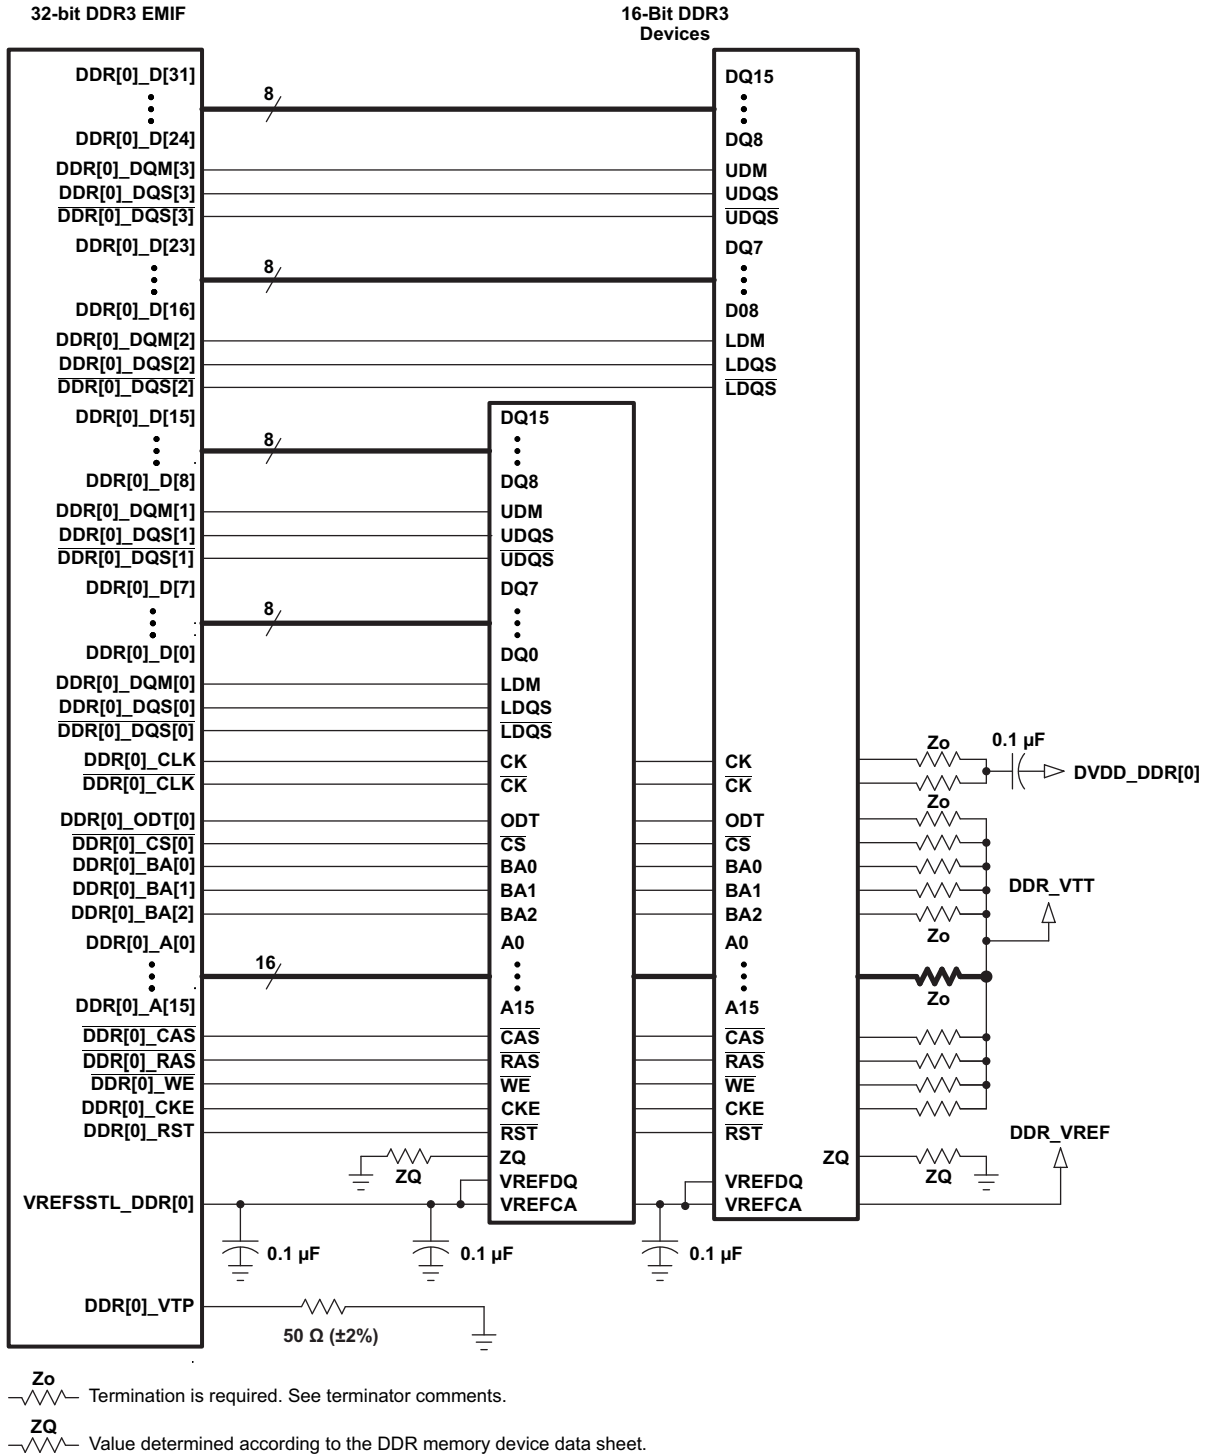
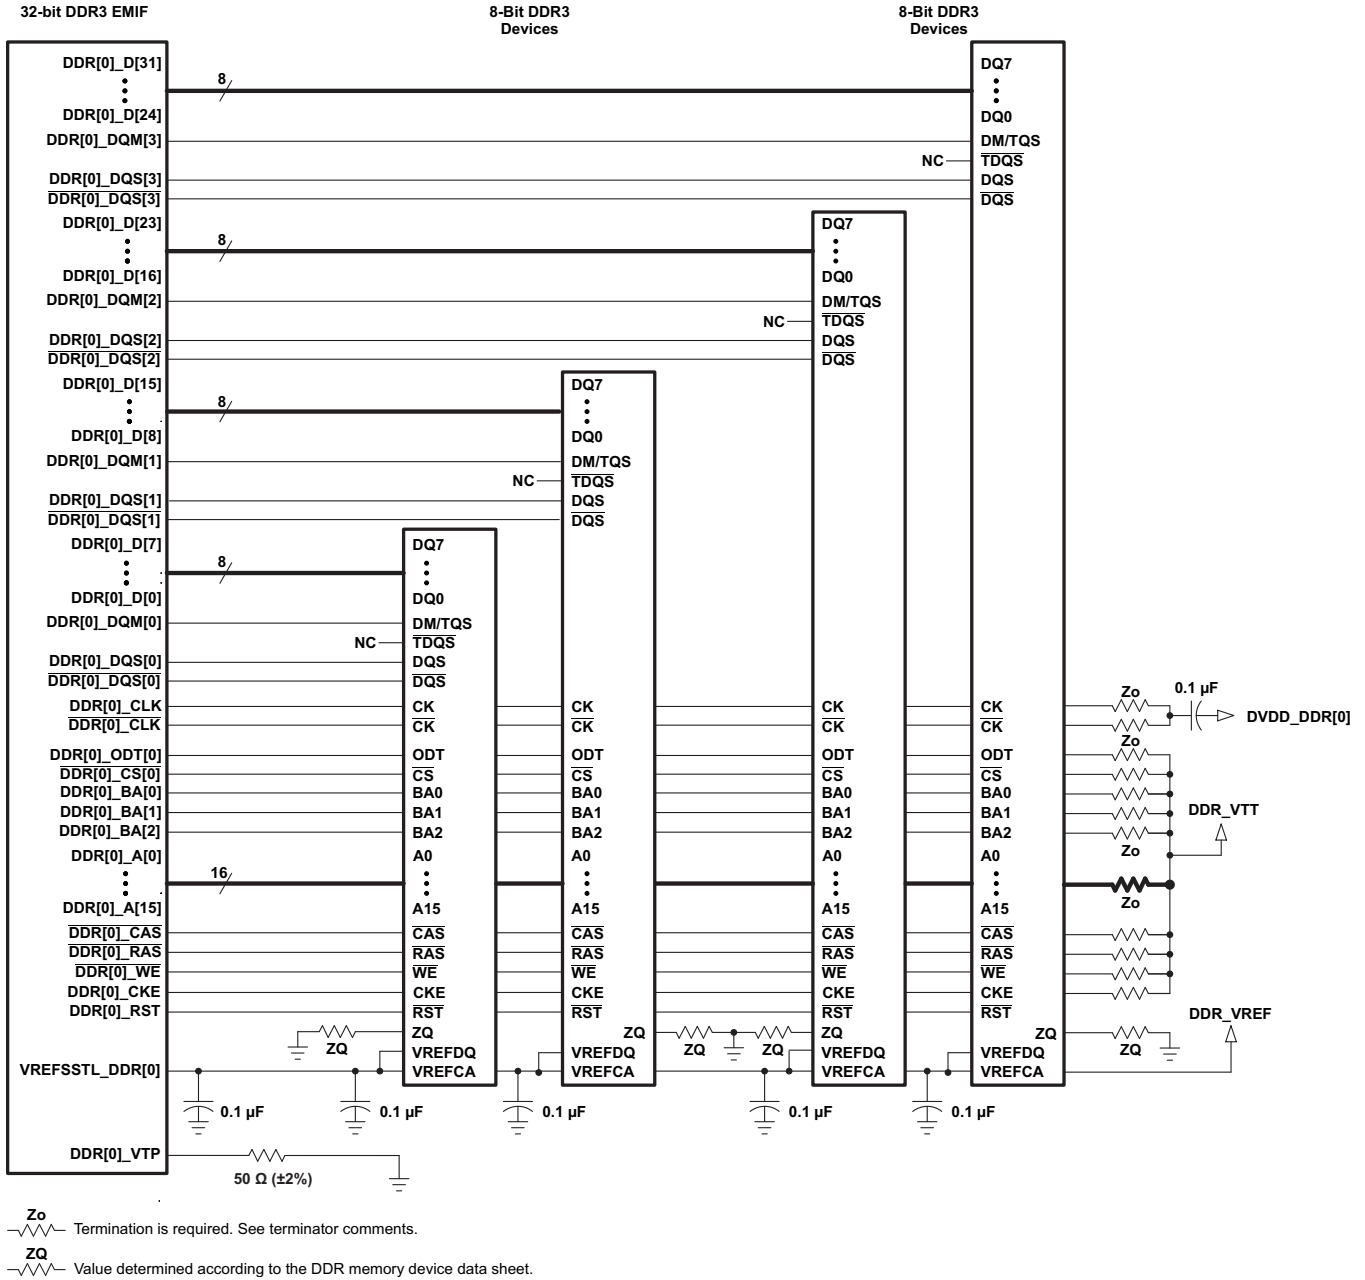

Figure 8-57. 32-Bit, One-Bank DDR3 Interface Schematic Using Two 16-Bit DDR3 Devices
Figure 8-58. 32-Bit, One-Bank DDR3 Interface Schematic Using Four 8-Bit DDR3 Devices
The DDR3 interface schematic varies, depending upon the width of the DDR3 devices used and the width of the bus used (16 or 32 bits). General connectivity is straightforward and very similar. 16-bit DDR devices look like two 8-bit devices. Figure 8-57 and Figure 8-58 show the schematic connections for 32-bit interfaces using x16 devices.
Note that the 16-bit wide interface schematic is practically identical to the 32-bit interface (see Figure 8-57 and Figure 8-58); only the high-word DDR memories are removed and the unused DQS inputs are tied off. The processor `DDR[0]_DQS[2]` and `DDR[0]_DQS[3]` pins should be pulled to the DDR supply via 1-k Ω resistors. Similarly, the `DDR[0]_DQS[2]` and `DDR[0]_DQS[3]` pins should be pulled to ground via 1-k Ω resistors.
(1) DDR3 speed grade depends on desired clock rate. Data rate is 2x the clock rate. For DDR3-800, the clock rate is 400 MHz.
(2) DDR3 devices with higher speed grades are supported; however, max clock rate will still be limited to 533 MHz as stated in Table 8-61 *Switching Characteristics Over Recommended Operating Conditions for DDR3 Memory Controller*.
(3) For valid DDR3 device configurations and device counts, see Section 8.14.3.3, Figure 8-57, and Figure 8-58.